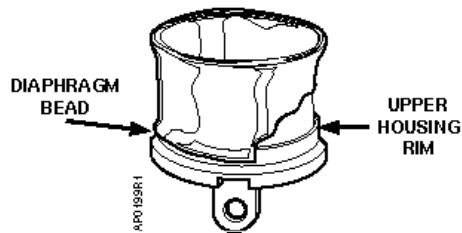

Figure 4.
7. Fold the diaphragm outward so that the bead of the diaphragm covers the outside of the upper housing rim. See Figure 4.